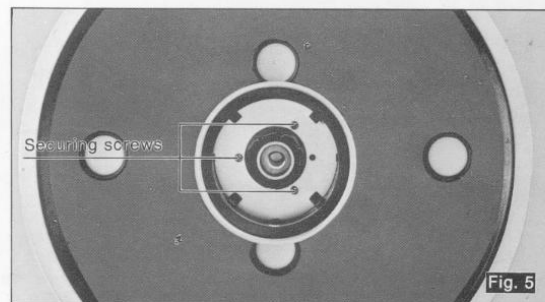

Fig. 5
- 2) Do not remove the three screws for securing the magnet. (See Fig. 5.)